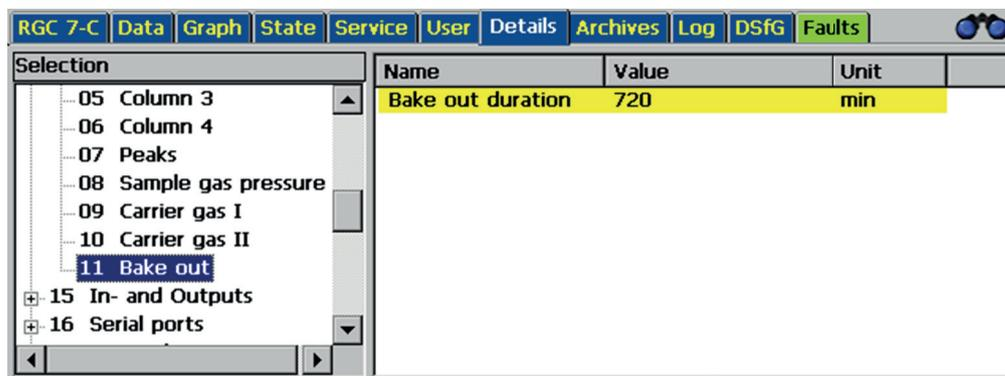

Fig. 35: Menu Detail – Level 14.11 Bake-out (view for selected user profile ‘User’)
- ▶ To do this, navigate to the menu **Detail, Level 14.11 Bake-out** (cf. fig. 35/fig. 36).